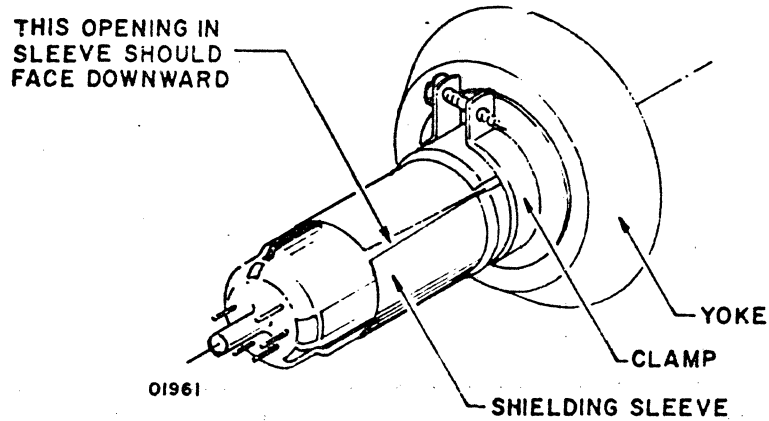

Figure CRT24. Positioning Shielding Sleeve
- 9) Position sleeve approximately as shown in figure CRT24, but with opening straight down.